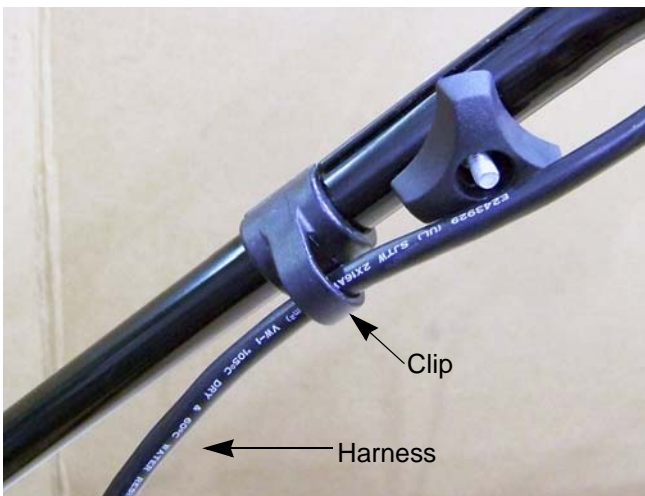

Figure 4.29
2. Slip the harness out of the clip on the right side of the middle handle. See Figure 4.29.